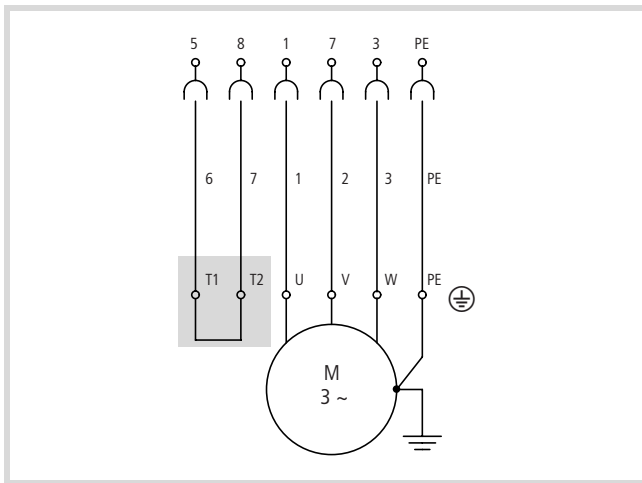
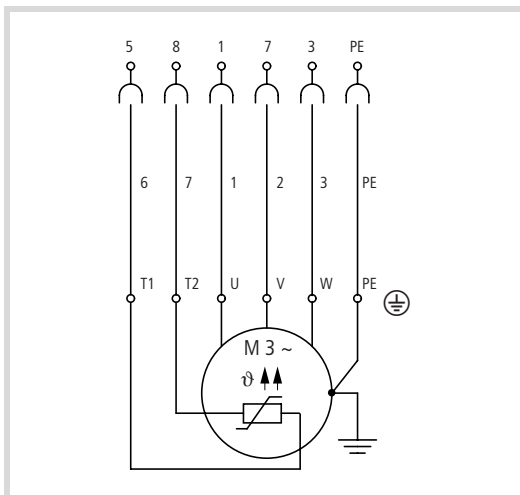

Figure 55: Motor connection without thermistor
Figure 56: Motor connection with thermistor
- the thermistor is correctly connected or whether wires 6 and 7 are bridged in the motor terminal board (→ fig. 55 and fig. 56, page 53)